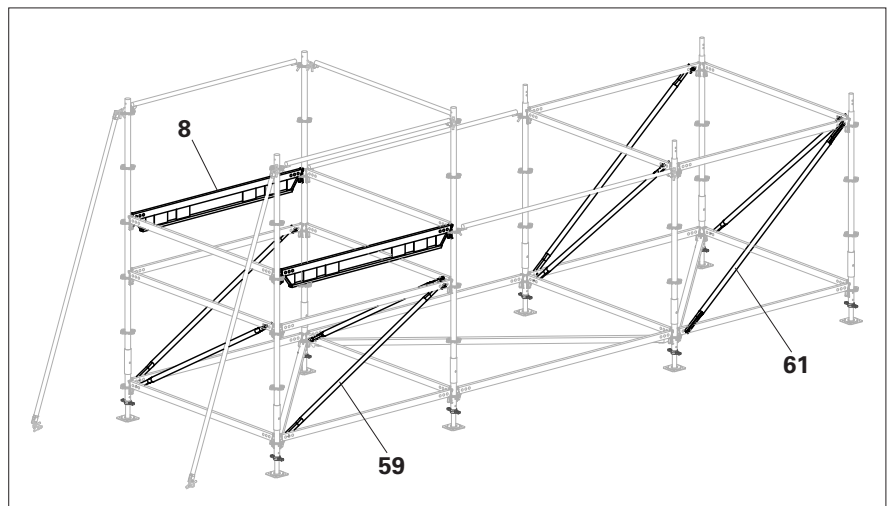

Fig. C1.04
9. Brace the landing platform tower with 4x Ledger Brace UBL-2 200/100 (**59**), then brace the other tower with 4x Ledger Brace UBL-2 200/150 (**61**). (Fig. C1.04)